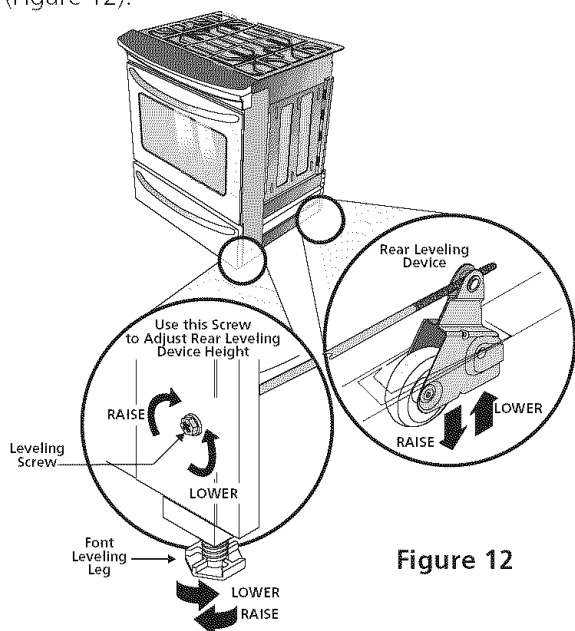

Figure 12
2. Adjust the appliance legs as follows until the underside of the cooktop surface is sitting level on the countertop (Figure 12).